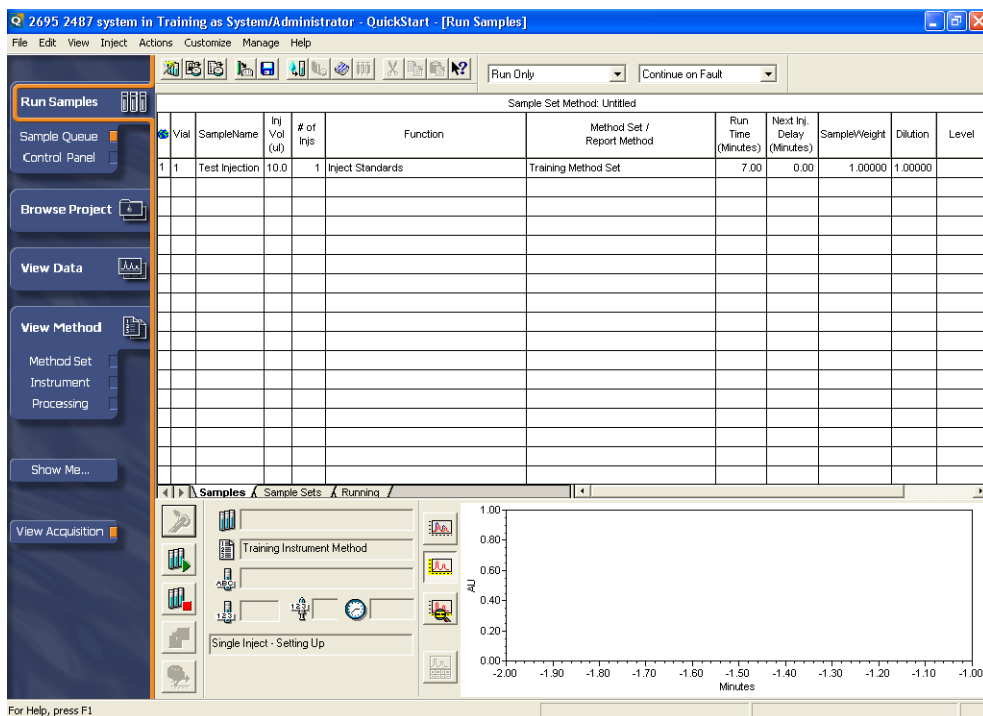

Figure 4-15 Run Samples, Run Only Mode and Single Injection Data
7. Click **Inject** to begin data acquisition. The status bar indicates when the injection is made. The chromatographic data is acquired and displayed in the Real-Time plot (Figure 4-15).